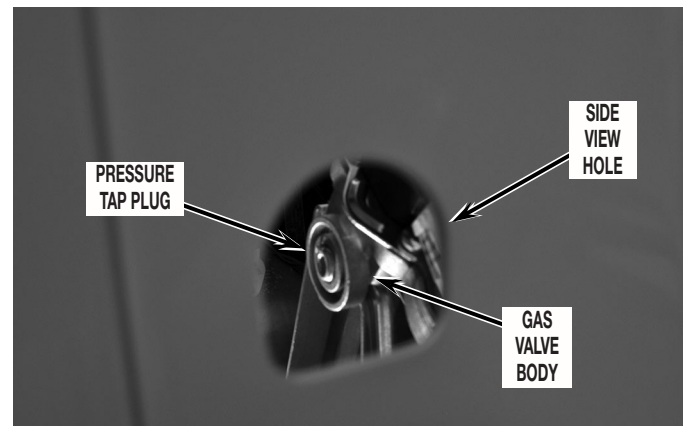

FIGURE 1
6. View through the hole on the right side panel inspecting for leaks indicated by growing bubbles. See *Figure 1*.